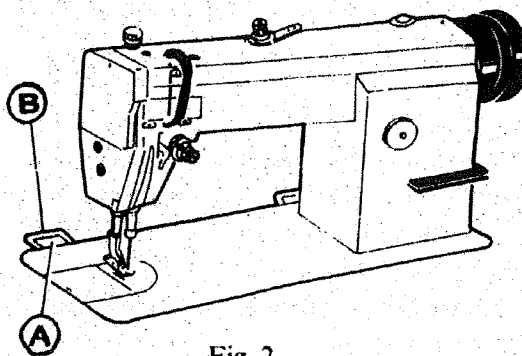

Fig. 2
3) Mounting machine head (Fig.2)